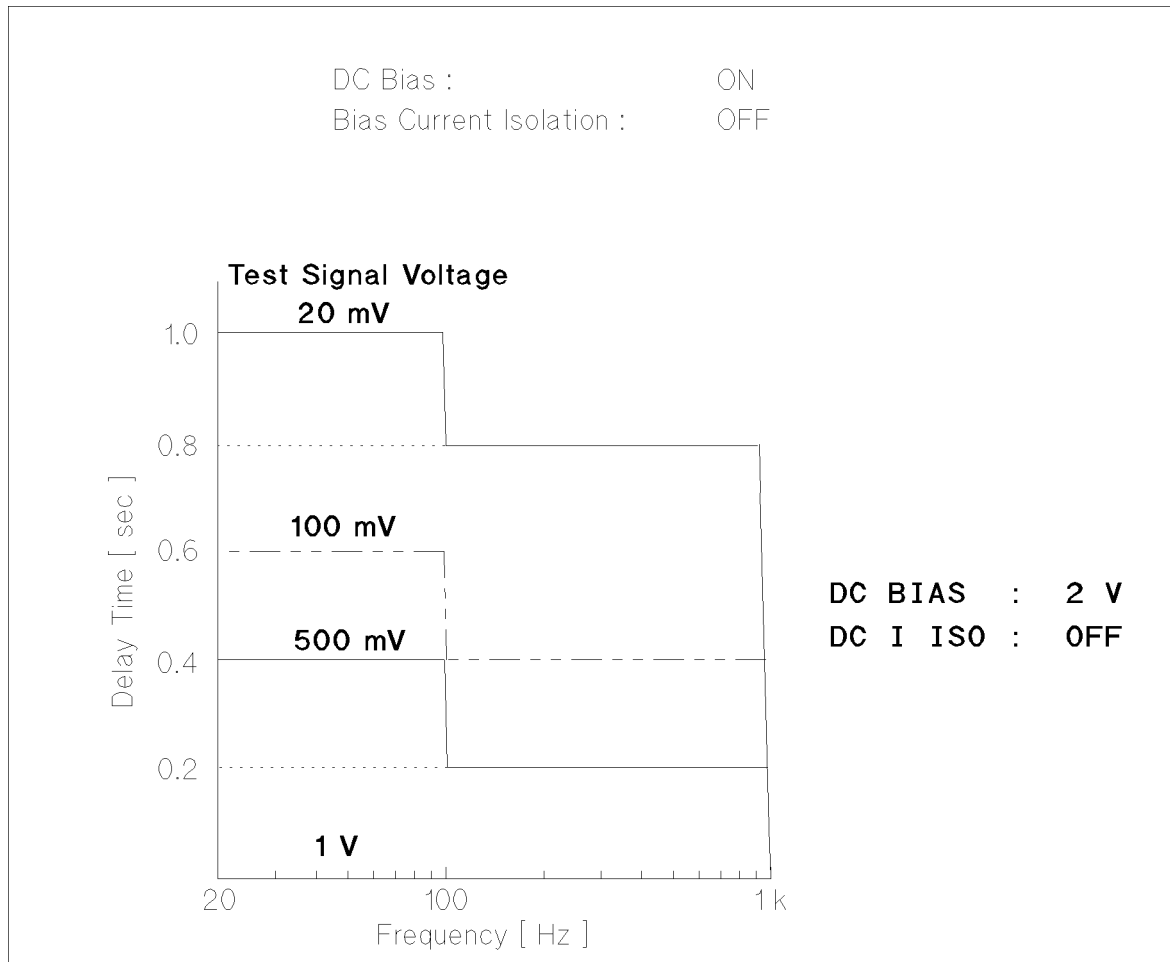
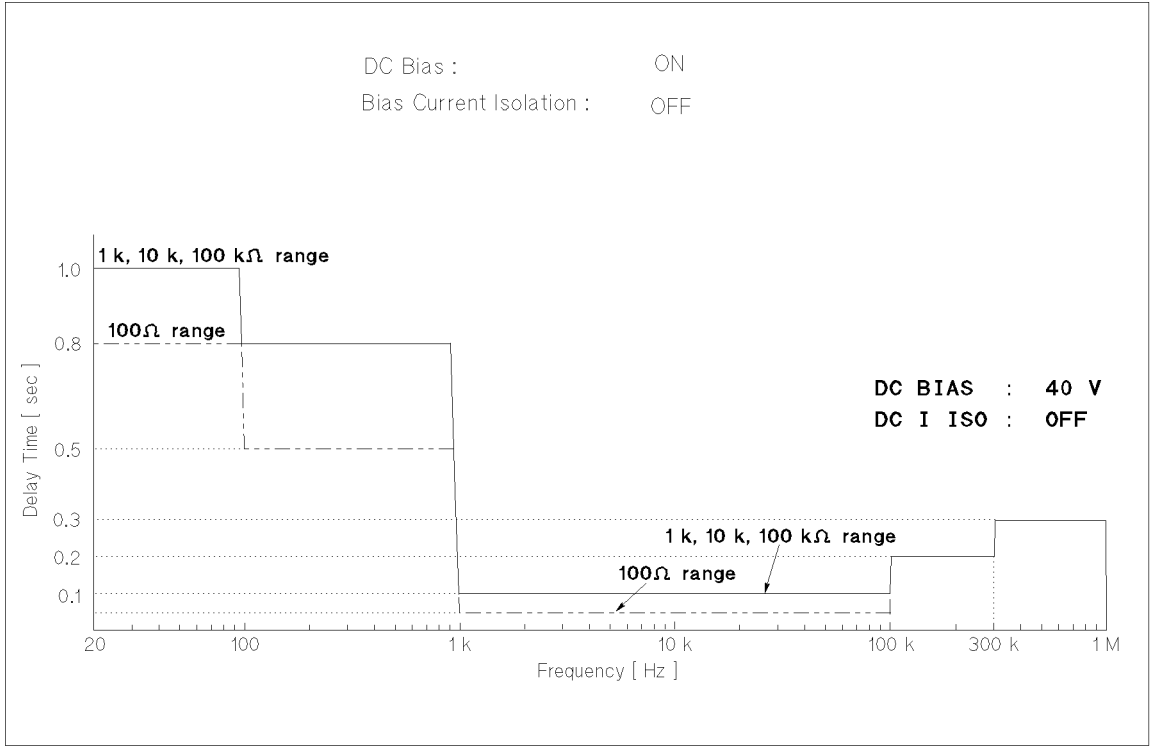

Figure G-6. Required Delay Times For Short Circuit Recovery (1)
Figure G-7. Required Delay Times For Short Circuit Recovery (2)
1. To recover from a short circuit condition under the following conditions, use the appropriate delay times as shown in Figure G-6 and Figure G-7.